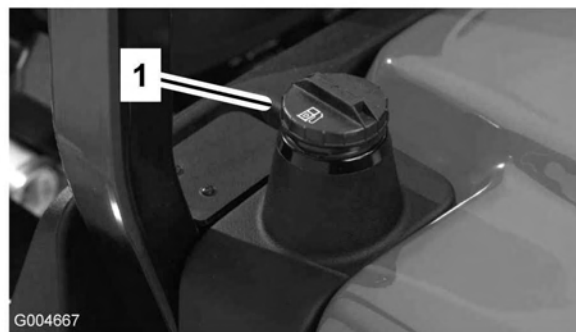

Figure 8
3. Remove cap from the fuel tank (Figure 8).